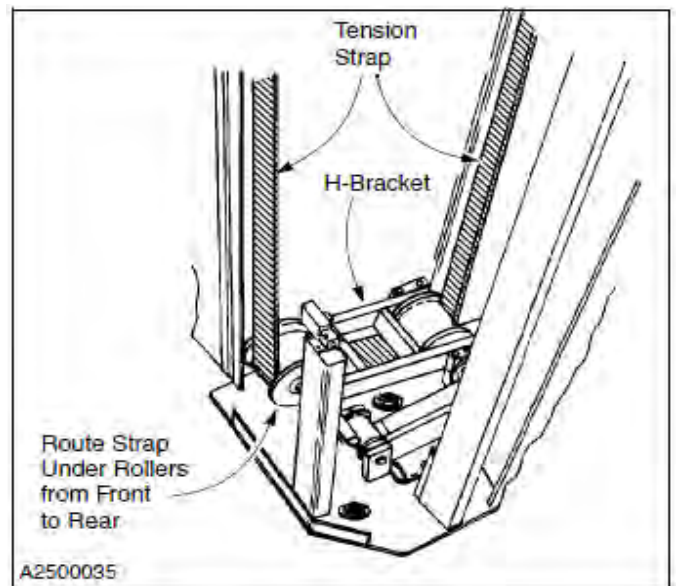
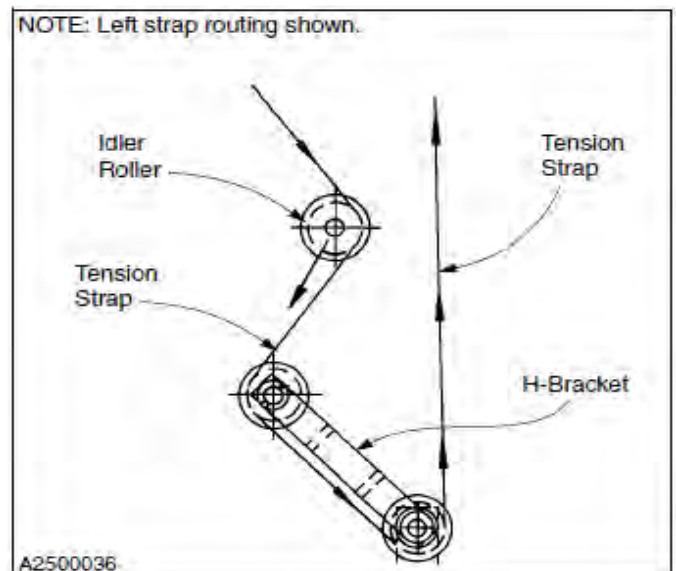
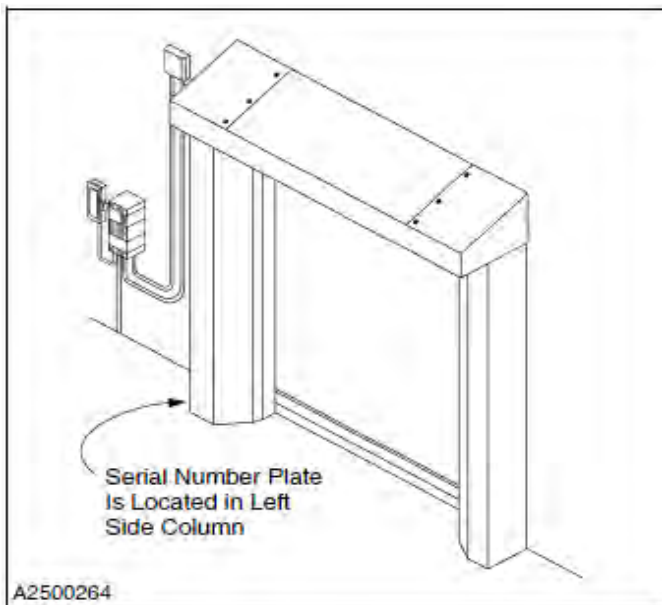

Figure 74
Figure 75
Figure 82
6. Route the tension strap as shown in Figure 74. If the door is equipped with an idler roller, route the strap around the idler as shown in Figure 75 and Figure 82.
3. To ensure the correct parts are shipped, please include the serial number of your door with the order. The serial number plate is located inside the left-hand side column, just above the tension spring. (See Figure 82.)
Your *DOOR SERIAL NUMBER* information can be found in three universal locations. These are at the inside of either side column (approximately eye level), on the drive motor, and inside the System 4 control panel. (See Figure 82.)